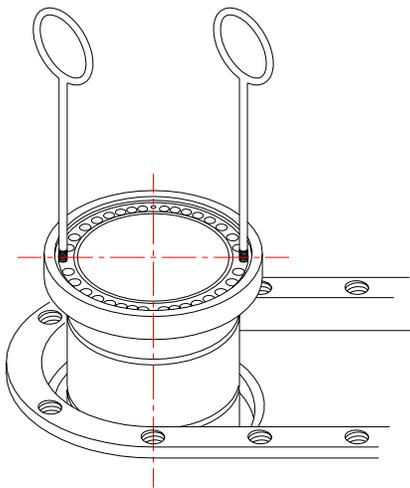

Fig. 13
- d) Fit the eyebolts (Fig. 13) to the liner.